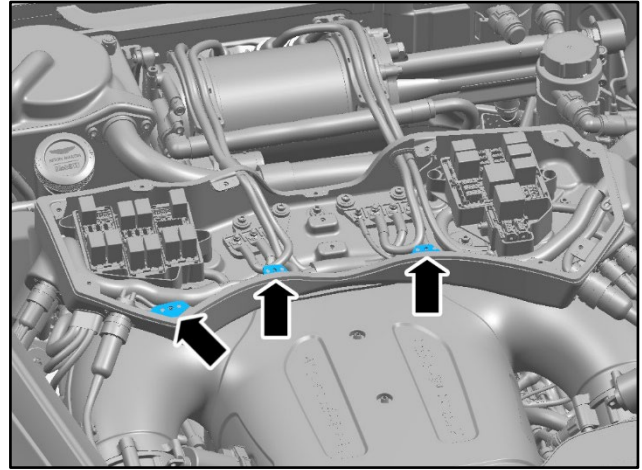

Figure 9
- 9. Examine the bolted joint areas that are near to fuse box harness (refer to Figure 9).